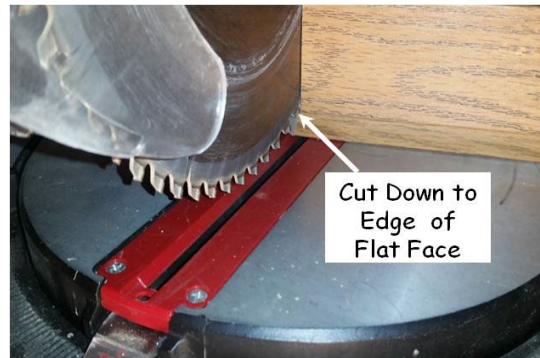

Figure 19-7. Relief Cut.
4. Cut down to the edge of the flat face (about ½” from the bottom) leaving the curved edge in place (see Figure 19-7).